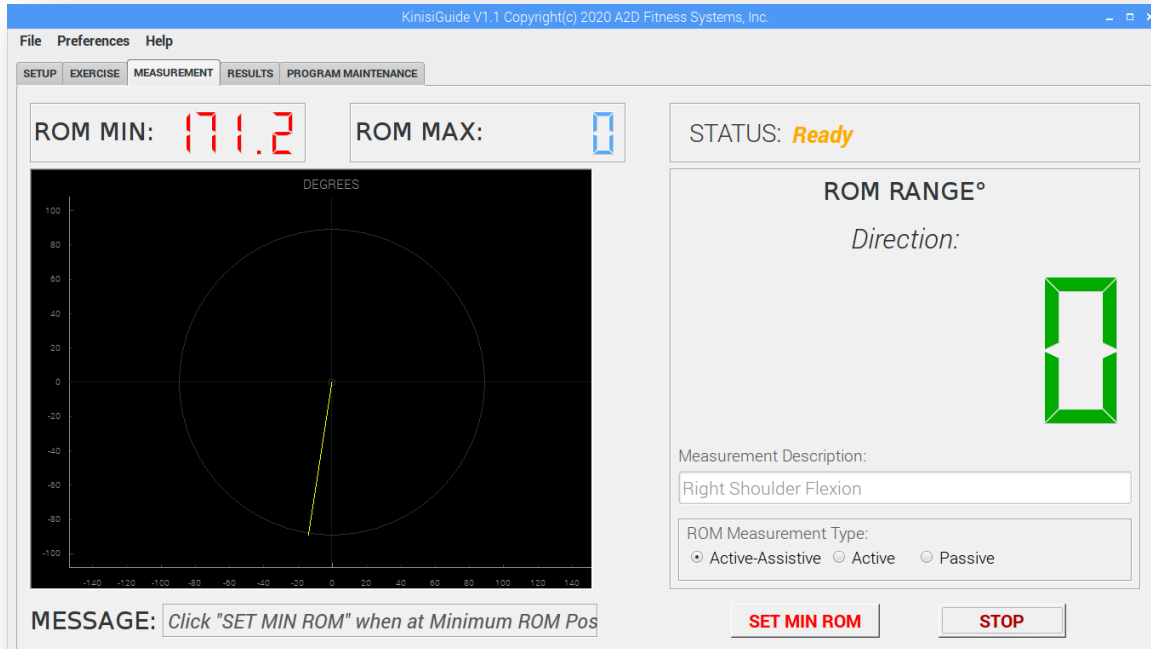
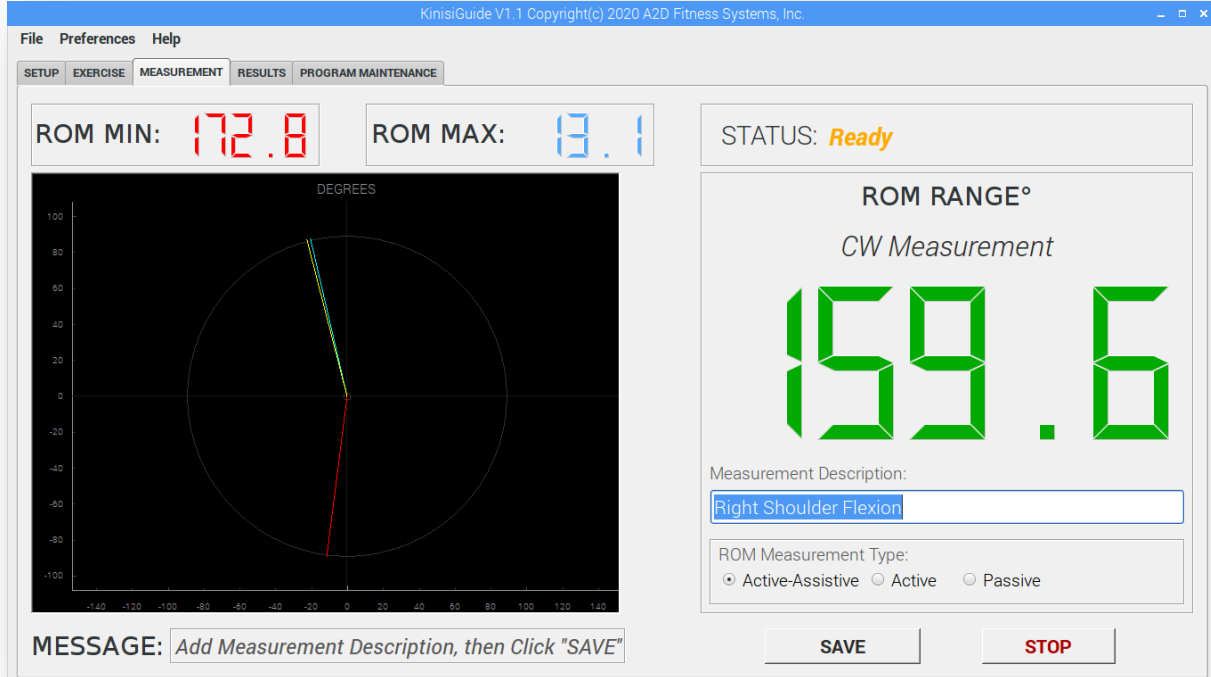

Figure 22 - Set Minimum ROM Position
Figure 24 - After the maximum ROM has been marked
- 6) Now move the extremity and Kinisi slowly toward the maximum ROM position as shown in Fig 24
NOTE: Setting the minimum ROM position as shown in Fig 22 can also be accomplished by gently pulling on Kinisi's resistance band connecting ring when Kinisi is in position, this allows the setting to be made without having to return to the computer to click on the "**SET MIN ROM**" button, this is particularly helpful when performing an active-assist or passive measurement. Pulling a second time when Kinisi is in the maximum ROM position will set the maximum ROM position as shown in Fig 24.